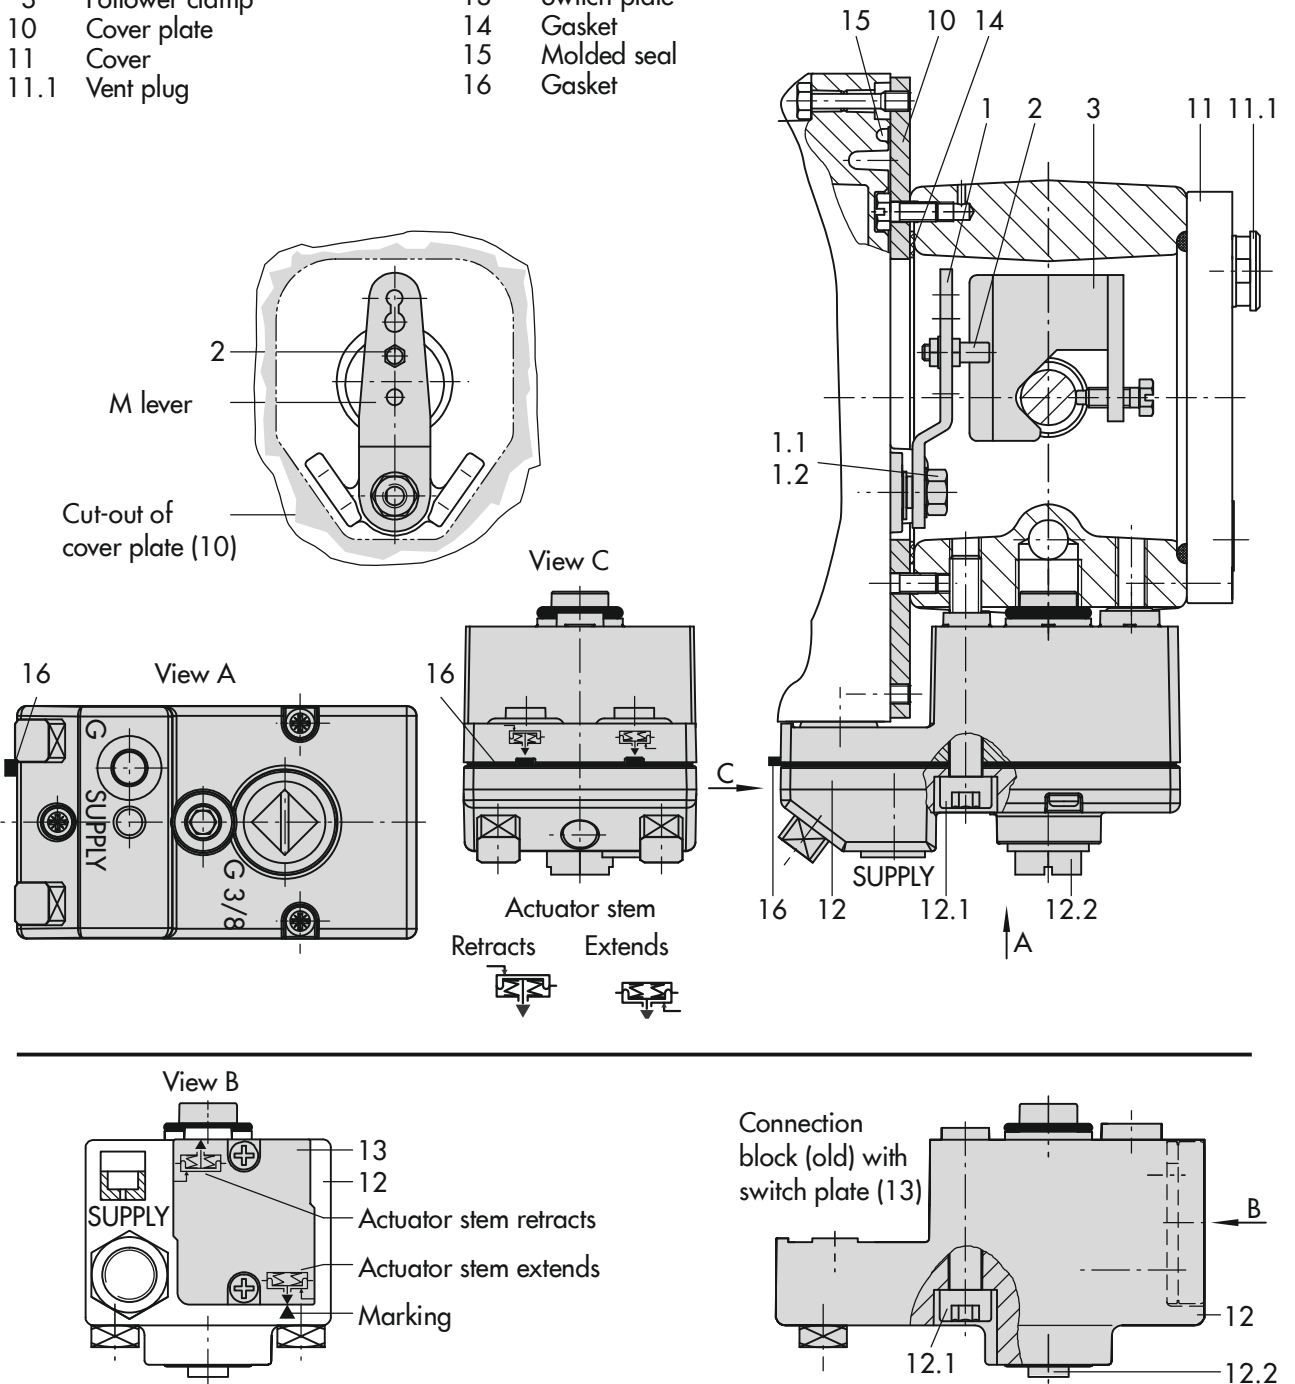

Fig. 5-6: Direct attachment – Signal pressure connection for Type 3277 Actuator with 175 to 750 cm2
#### Actuators with 175 to 750 cm2 effective areas (see Fig. 5-6)
1. Place follower clamp (3) on the actuator stem, align it and screw tight so that the mounting screw is located in the groove of the actuator stem.
2. Mount cover plate (10) with narrow side of the cut-out (Fig. 5-6, on the left) pointing towards the signal pressure connection. Make sure that the gasket (14) points towards the actuator yoke.
3. For actuators with 355, 700 or 750 cm2, remove the follower pin (2) on the M lever (1) on the back of the positioner from pin position 35, reposition it in the hole for pin position 50 and screw tight. While doing so, hold the lever in the middle to ensure that it does not rest at the end stops.
4. Insert molded seal (15) into the groove of the positioner housing.
5. Place positioner on the cover plate in such a manner that the follower pin (2) rests on the top of the follower clamp (3). Adjust the lever (1) correspondingly and open the positioner cover to hold the positioner shaft in position at the cap or rotary pushbutton. The lever (1) must rest on the follower clamp with spring force. Fasten the positioner on the cover plate (10) using the two fastening screws.
6. Make sure that the tip of the gasket (16) projecting from the side of the connection block is positioned to match the actuator symbol for the actuator's fail-safe action "actuator stem extends" or "actuator stem retracts". If this is not the case, unscrew the three fastening screws and lift off the cover. Turn the gasket (16) by 180° and re-insert it.
The old connection block version (Fig. 5-6, bottom) requires the switch plate (13) to be turned to align the actuator symbol with the arrow marking.
7. Place the connection block (12) with the associated seals against the positioner and the actuator yoke and fasten using the screw (12.1). For actuators with fail-safe action "actuator stem retracts", additionally remove the stopper (12.2) and mount the external signal pressure pipe.
8. Mount cover (11) on the other side.